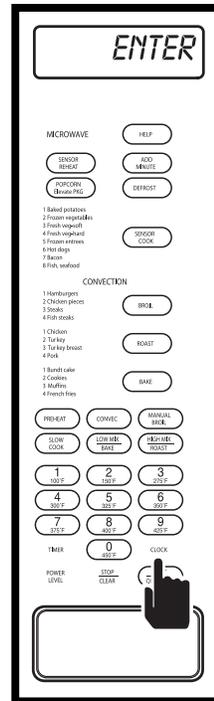

Figure 3-65.
1. Press **CLOCK** key, "ENTER - TIME" will flash on the digital display (See Figure 3-65).